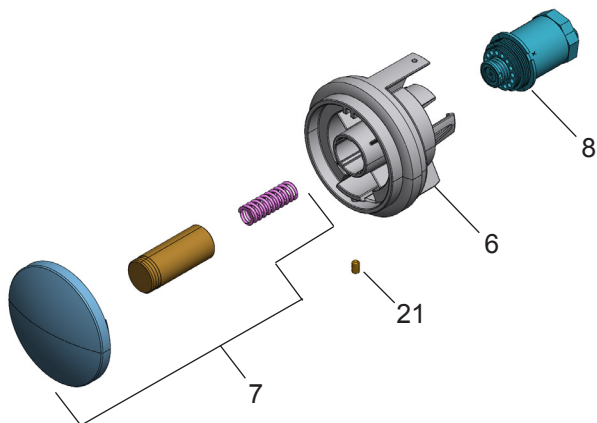

Figure 8 - Push Button Assembly
14. **Check** stream height from bubbler. Stream height is factory set for 35 PSI supply. If supply pressure varies greatly from this, remove push button (Item 7 - Fig. 8) and adjust the screw on the regulator (Item 8 - Fig. 8). To remove push button, remove setscrew from bottom of sleeve (Item 21). Insert a small punch in screw hole and push up while grasping the push button and pull forward removing the push button. Clock wise adjustment will raise stream height and counterclockwise movement will lower stream height. For best adjustment stream should hit basin approximately 6-1/2" from the bubbler. Reassemble the push button by pushing in on button until the push button catches in the sleeve. Reinstall the setscrew (Item 21) in the sleeve (Item 6).